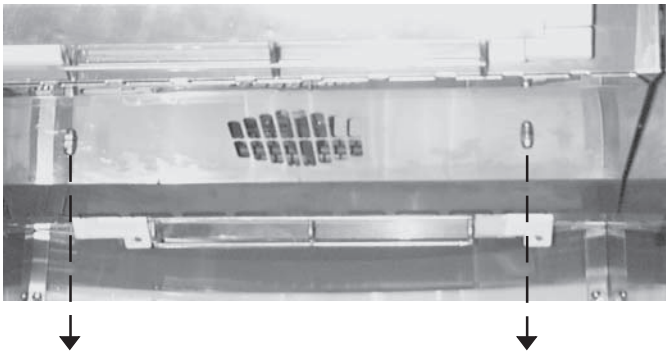

Fig. 36
2. Lower and remove vent-grate (Figs. 36, 37).